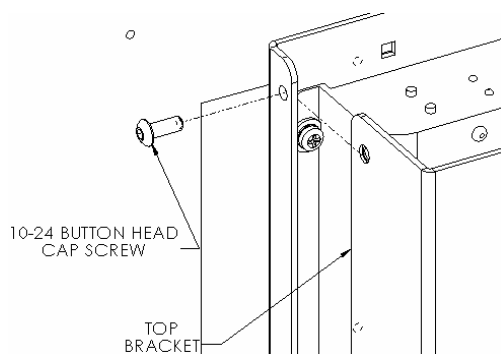
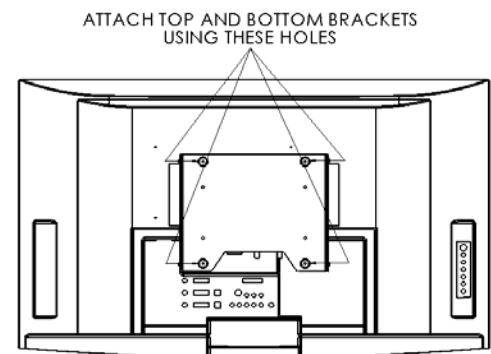

Figure 8
Figure 9
- Attach top and bottom brackets using the remaining four 10-24 button head cap screws (see Figure 8 & Figure 9).